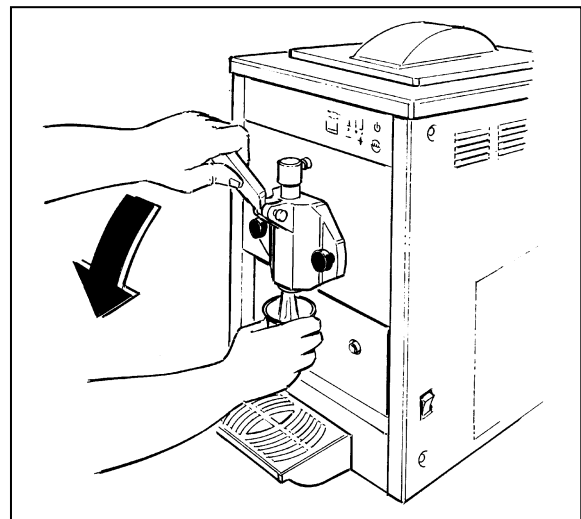

Fig. 10
- To dispense, place a glass under the tap and pull the lever as shown in fig.10.